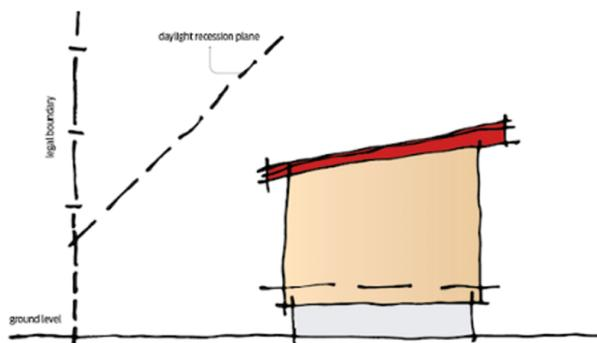

Figure 3. No part of the sleepout can penetrate the daylight recession plane.
5.1.1 District and unitary plans limit the maximum height of a building relative to the boundary with a daylight recession plane (Figure 3). Recession planes typically run at an angle of 45° or 55° from a spot 2.5 metres above ground on the boundary. No part of the sleepout can be above the recession plane [or resource consent may be required if it is]. Depending on the building design, the recession plane rules may mean that a sleepout must be built at a greater distance from the boundary than the minimum setback distance in Schedule 1.